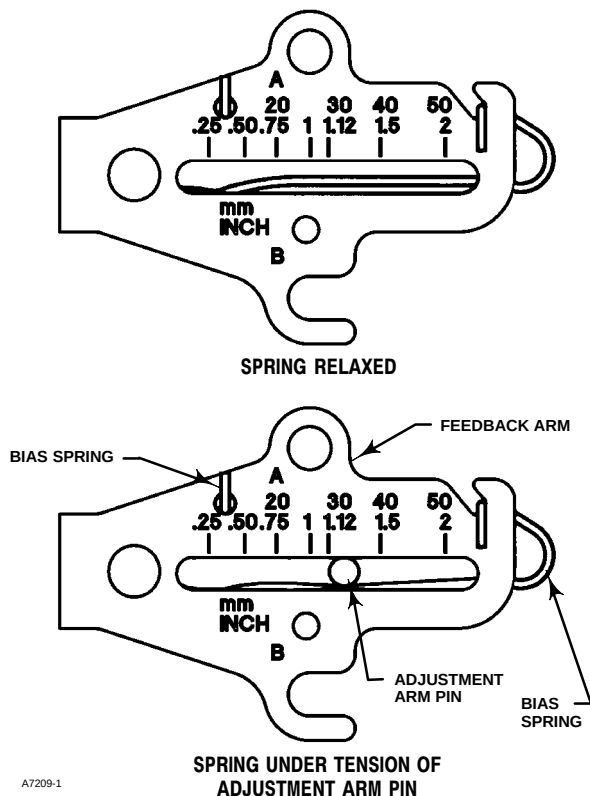

Figure 2-3. Locating Adjustment Arm Pin in Feedback Arm
7. Apply anti-seize (key 64) to the pin of the adjustment arm. As shown in figure 2-3, place the pin into the slot of the feedback arm or feedback arm extension so that the bias spring loads the pin against the side of the arm with the valve travel markings.
10. Remove the alignment pin (key 46) and store it in the module base next to the I/P assembly.